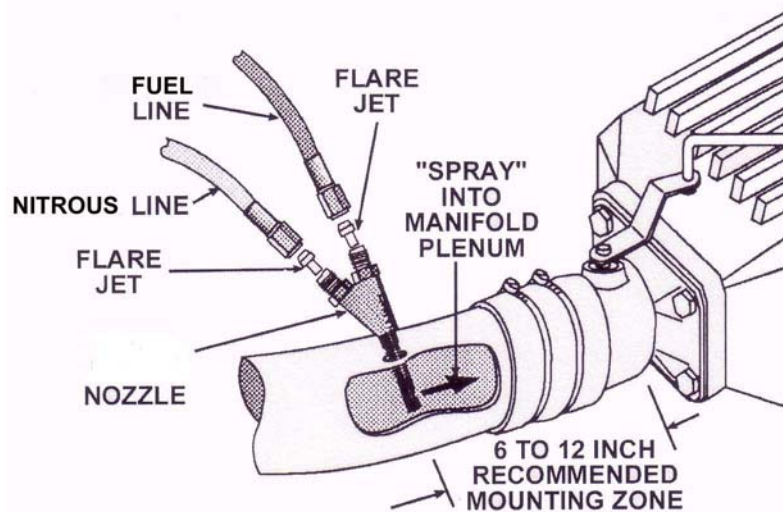

FIG. 5
Note: The recommended mounting location for the nozzle is in the air inlet duct, between the throttle body and the mass airflow sensor (in applications where a mass airflow sensor is used). In certain applications where the throttle body is an integrate part of the air cleaner housing, install the nozzle between the throttle body and the intake manifold. If possible, install the nozzle between 6 and 12 inches before the throttle body or any major turn in the air inlet duct. See figure 5.
- 1) Select the proper nitrous and fuel jets (15). Place the desired jets into the nozzle, making sure that the jets are inserted into the correct locations, as marked in figure 5 Check the jet cart for correct jet sizes.
- 2) Connect and tighten the blue fitting side of the 2 ft. 3AN hose (10) to the nozzle as shown in figure 5
- 3) Connect and tighten the red fitting side of the 2 ft. 3AN hose (10) to the nozzle as shown in figure 5